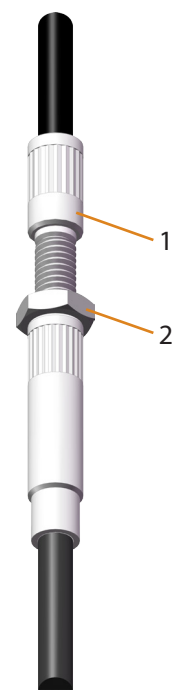
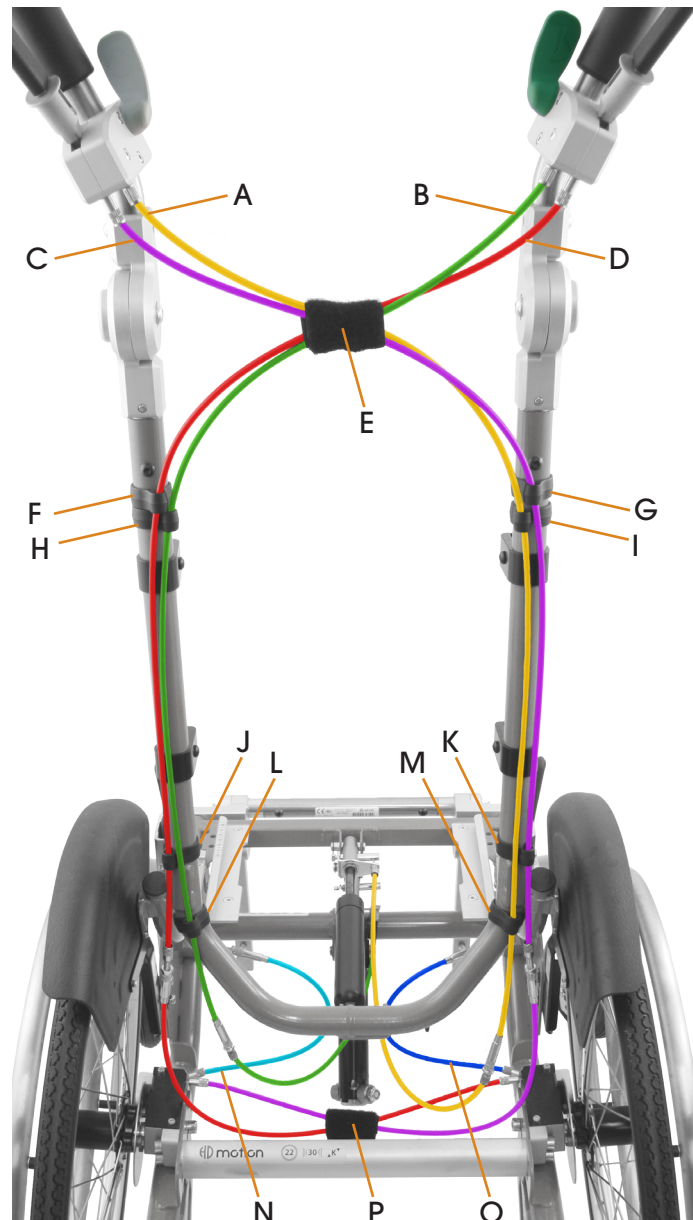

Figure 16. Adjustment screw
Figure 19. Cable routing
1. First locate the adjustment screw. The adjustment screws for user brakes (N and O in Figure 16) on the right and left side respectively. Adjustment screws for caregiver brakes (C and D in Figure 19). **Note:** The adjustment screw for the caregiver brake on the **right** side is found on the **left** side of the back frame, and vice versa.
2. Loosen the nut (2 in Figure 16) on all adjustment screws and thread in the sleeves (1) a few turns to slacken the brakes.
3. Check that all cables are correctly routed and clipped in place (see Figure 19).
4. Adjust the caregiver brakes first. Adjust by threading the sleeve (1 in Figure 16) - screw it out for more braking force, in for less braking force. Tighten the nut (2) after adjusting.
6. When the new cable is assembled in the controls it must be routed correctly along the back frame and be clipped in place, see Figure 19 and section 3.3.1.
9. Check the brake function and that all cables are correctly clipped in place on the back frame (see Figure 16). Also check that the push bar can be adjusted through the full range without affecting the brake cables.
Adjust by threading the sleeve (1 in Figure 16) - screw it out for more braking force, in for less braking force. Tighten the nut (2) after adjusting.
5. Reassemble in the same manner. Check first that the adjustment screw (1 in Figure 16) on the new cable is fully screwed in for maximum slack, this makes assembly easier.
Figure 19 shows the routing of all wire cables on HD Motion. From the cable controls on the push bar cables connect for caregiver brakes, back recline, and seat tilt.
5. Draw the cables down to their respective connection points. Follow section 3.3.1 and Figure 19 carefully.
9. Check all brake and tilt functions, and cable routings (see Figure 19).
10. Assemble the wire strap (E in Figure 19) to hold the cables together.
1. First identify where the adjustment screw is under the back frame. See Figure 19. **NOTE:** The adjustment screw for the seat tilt lever on the *right* side of the push bar is found on the *left* side of the wheelchair, and vice versa for the back recline lever.